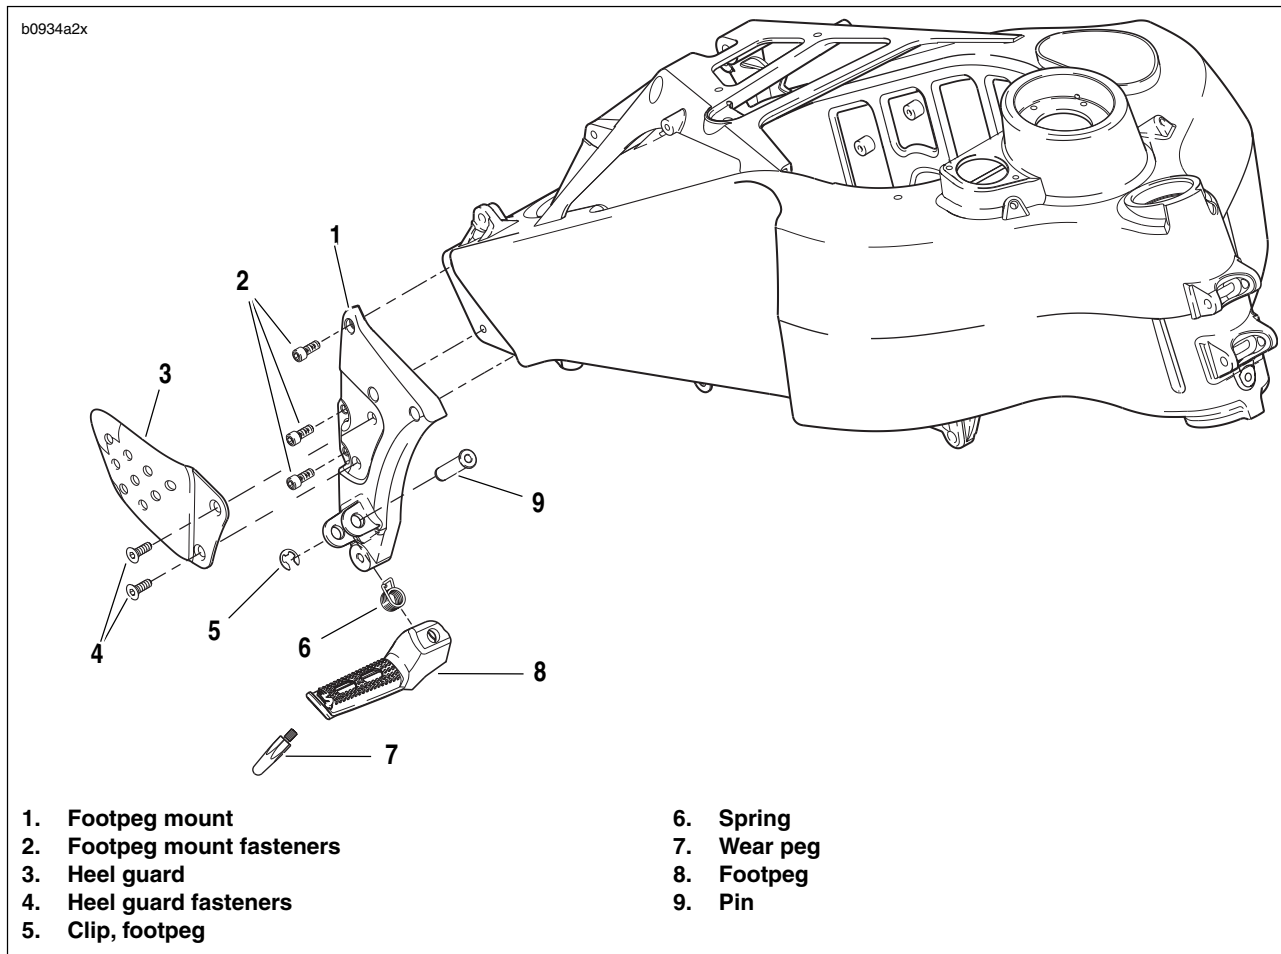

Figure 2-104. Rider Footpeg, Mount and Heel Guard Assembly
1. See Figure 2-104. Remove wear peg from end of footpeg assembly.
1. See Figure 2-104. Remove clip (5).
2. Remove footpeg pin (9).
3. Remove footpeg (8).
1. See Figure 2-104. Remove heel guard fasteners (4).
2. Remove heel guard (3).
1. See Figure 2-104. Remove footpeg mount fasteners (2).
2. Remove footpeg mount (1).
1. See Figure 2-104. Position footpeg mount (1).
2. Install footpeg mount with fasteners (2). Tighten to 108-132 **in-lbs** (12-15 Nm).
1. See Figure 2-104. Position heel guard (3) onto footpeg mount (1).
2. Install heel guard (3) with fasteners (4). Tighten to 72-96 **in-lbs** (8-11 Nm).
1. See Figure 2-104. Install clip (5).
2. Position footpeg (8) on to footpeg mount (1).
3. Install footpeg pin (9).
1. See Figure 2-104. Apply Loctite 272 (Red) and tighten to 36-48 **in-lbs** (4.1-5.4 Nm).